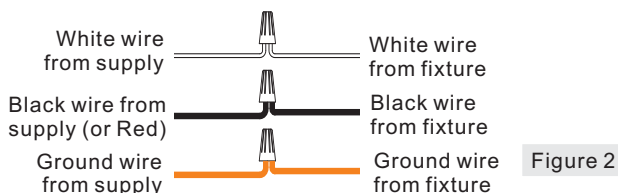

Figure 2
A. Mark two desired positions and drill them on the ceiling for two Rail Supports (C) on the side of the Ceiling Canopy (B).
NOTE: Center the Ceiling Canopy (B) between two Rail Supports (C) and The distance between each Rail Support (C) and the canopy is 14 ~ 18 inches (See Fig 2-a). So the remainder length of the rail could be bent to a wonderful arc.